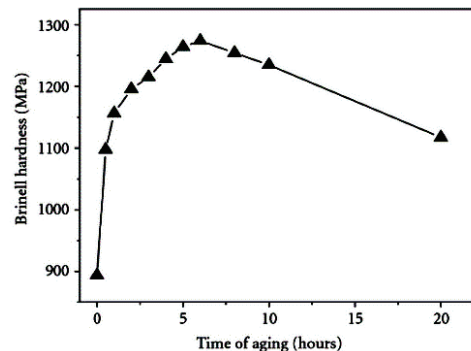
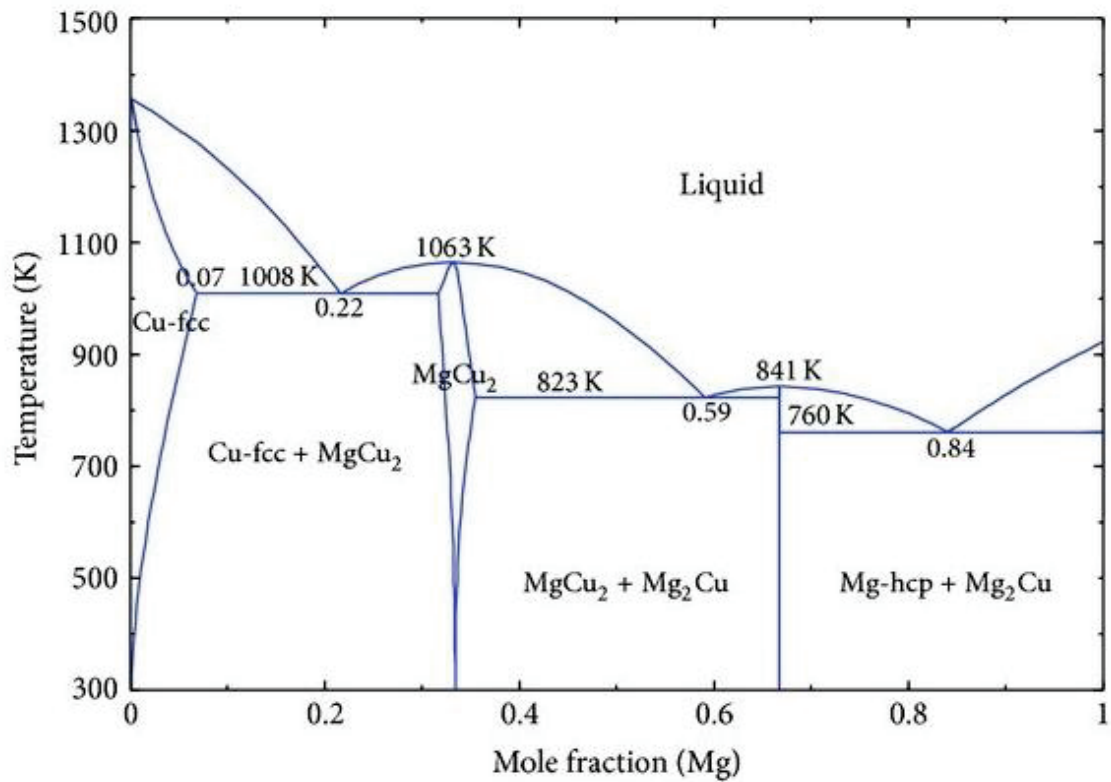

Figure 5: Correlation between hardness and ageing time for Cu-Mg alloy
Figure 6 Phase diagram Cu-Mg
- (6). (a). Figure 5 shows correlation between hardness and ageing time for precipitation hardenable copper alloys with magnesium alloying element while Figure 6 is the binary phase diagram of Cu-Mg. Based on Figures 5 and 6, propose solution precipitation hardening heat treatment stages with suitable temperature profile of this alloy. Draw the heat treatment profile in Figure 6 (you need to enclose Figure 6 in answer script). Justify your answer with detail explanation.